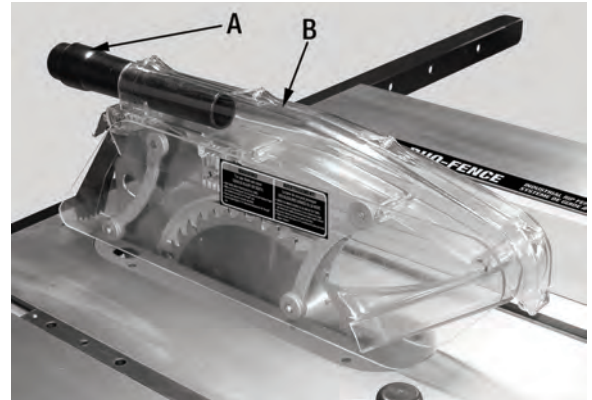

FIGURE 22
This Cabinet Saw also comes with a 1-1/4" I.D./1-1/2" O.D. dust chute adapter (A) Fig.22 which is connected to the blade guard (B) allowing for the connection to a vacuum or dust collection system. Dust and wood chips can be collected at the source to minimize airborne dust.
An optional accessory "Vacuum Hose & Support Kit" (model KW-161) is available. If you purchase and install the optional "Vacuum Hose & Support Kit" the additional 1-1/2" fitting (B) must be used to connect the optional "Vacuum Hose" from the blade guard dust chute adapter (A) Fig.22. Please contact your nearest distributor of King Canada products for more information.